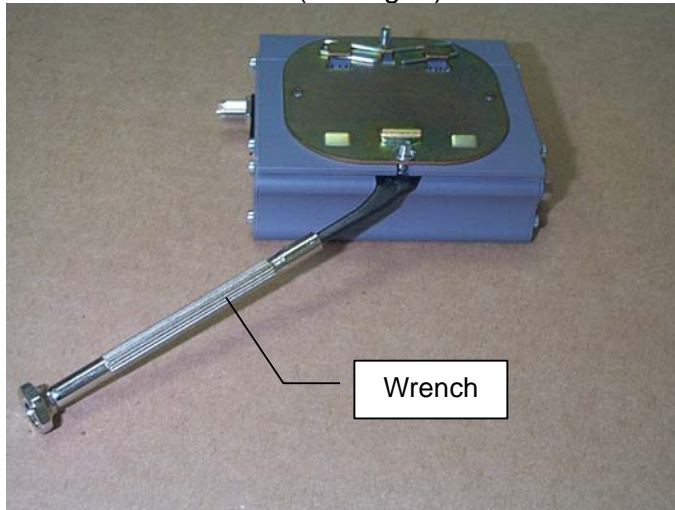

Fig. 4
4) Place the wrench to fix the screw (See fig. 4).